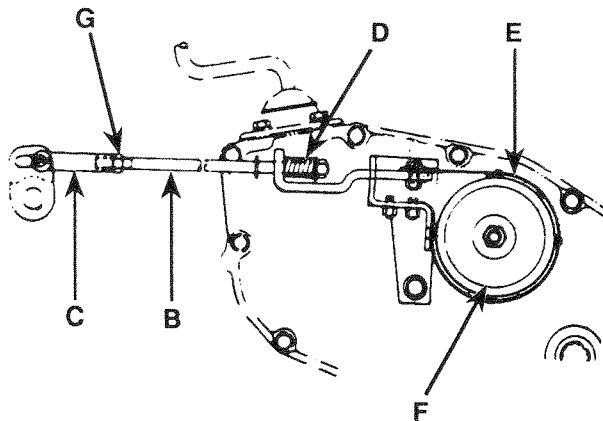

FIGURE 30
- Loosen Jam Nut (G) on Brake Rod (B) at Clevis (C) (Fig. 30). If you find it difficult to loosen Jam Nut (G), remove Cover Plate in L.H. Frame Rail.
- Rotate Brake Rod (B) counterclockwise (↺) turning Brake Rod out of Clevis (C) four to six turns.
- Shut Engine off. Rotate Brake Rod (B) clockwise (↻) by hand, turning Brake Rod into Clevis (C), until tight. Tighten Jam Nut (G) on Brake Rod (B) at Clevis (C) (Fig. 30).
- Reinstall Shift Cover Plate and four (4) Mounting Screws. If Cover Plate in L.H. Rail was removed in step (b), it should be replaced.